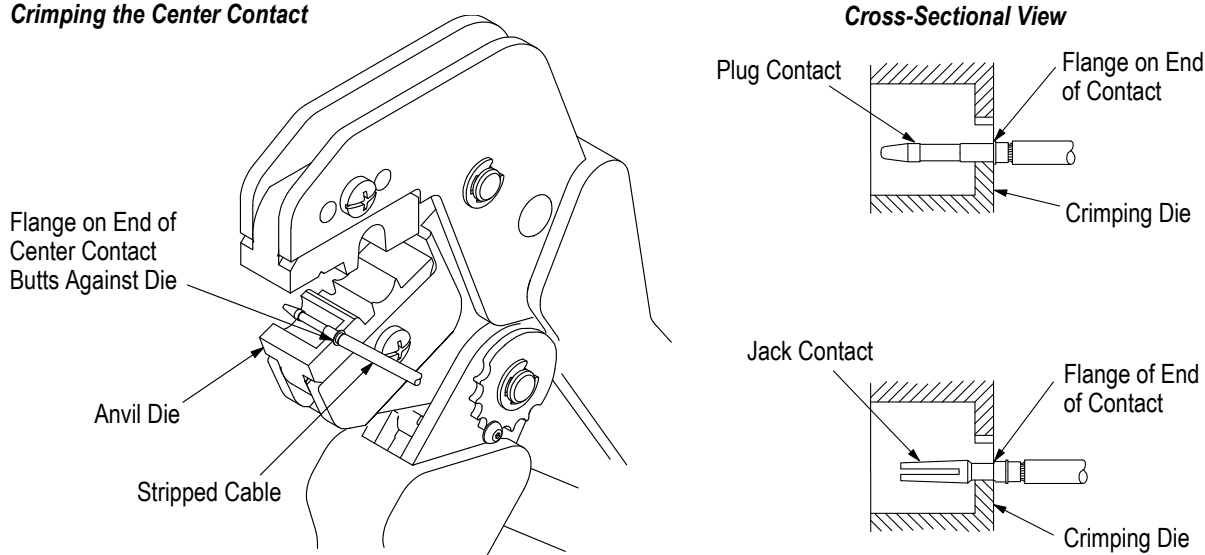

Figure 2
##### 4.1. Center Contact (Figure 2)
2. Slide center contact onto center conductor of cable; then insert contact assembly into the center contact crimping chamber of the anvil die. See Figure 2.
Make sure that the flange on the end of the center contact butts against the edge of the die. See Figure 2.